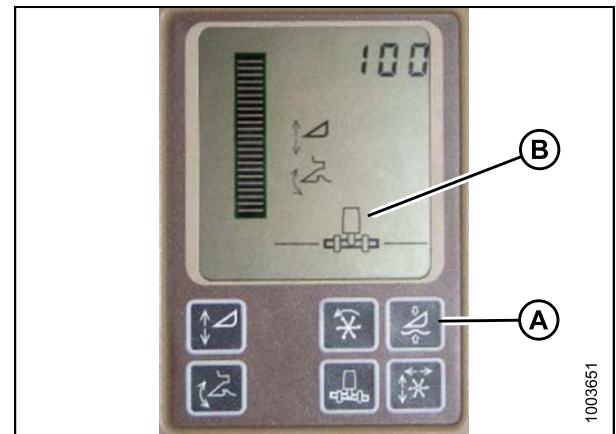

Figure 3.181: Combine Display
Do **NOT** use the active header float function (A) in combination with the MacDon Auto Header Height Control (AHHC) – the two systems will counteract one another. The header symbol (B) on the display should NOT have a wavy line under it and should appear exactly as shown on the Active Header Control Display in Figure 3.181: *Combine Display*, page 135.